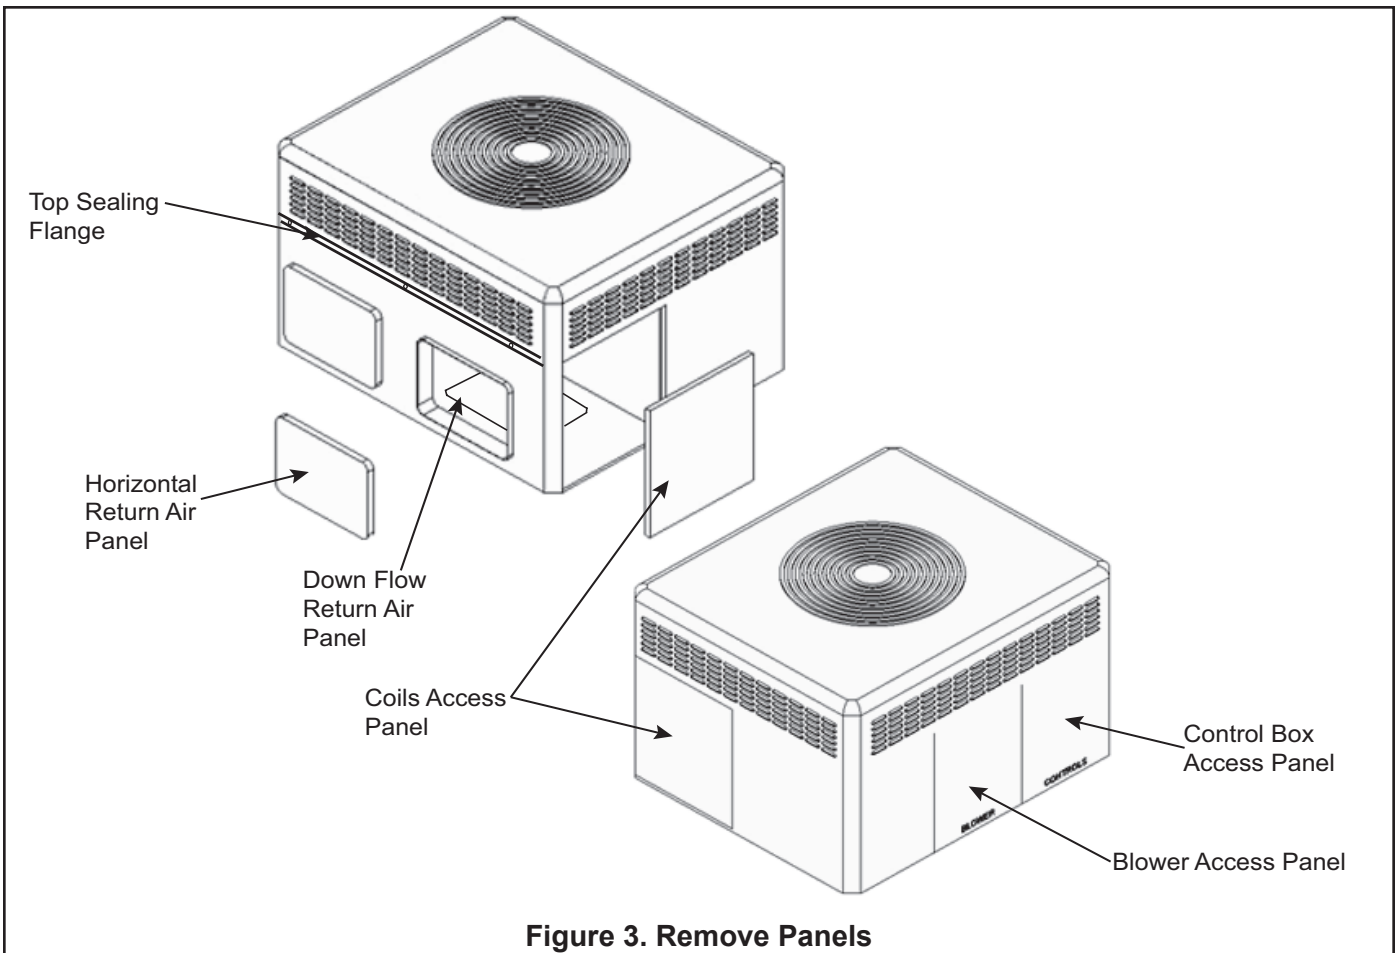

Figure 3. Remove Panels
Remove these four (4) access panels (see Figure 3):